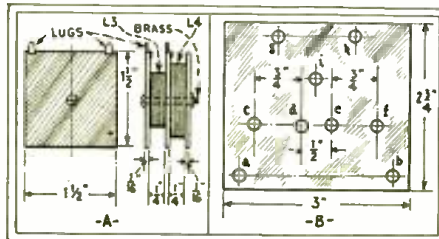
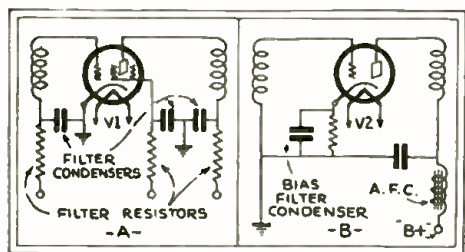

Fig. 2
Fig. 1
In Figs. A and B are illustrated United Radiobuilders' custom-constructed super-regenerative receiver, which covers a wavelength range of roughly 3 to 8 meters (more nearly, 3.7 meters to 7.2); its schematic circuit is Fig. 1. In Fig. 2 are shown two details of construction; at A, the coils of the suppressor-frequency inductance L3-L4, and; at B, the end-plate which serves to hold the short-wave inductances L1-L2 and at the same time support one end of the tuning condenser C3. By plugging in a different inductance unit as L1-L2, the minimum wavelength pickup may be reduced to 1. meter; adjustment of C1 and C2 will increase the maximum wavelength pickup.
**N**O doubt you are all familiar with the methods shown in Fig. 1 for the purpose of eliminating coupling between stages by means of filters composed of chokes and condensers or resistance-condenser combinations. The question often arises as to what values these components should have and as to the relative merits of the two systems.
**T**O mount a lamp bulb on a panel with an ordinary socket looks very cumbersome, so the writer evolved the kink illustrated in Fig. 2.